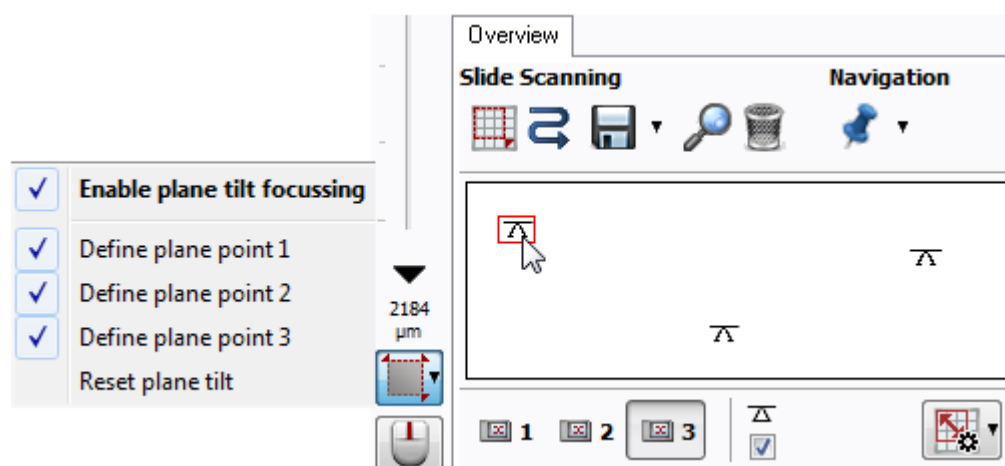

Figure 7.2: Plane tilt user interface
2. Select *Define plane point 1* from the plane tilt menu (Fig. 7.2) or press *Ctrl + 1*.